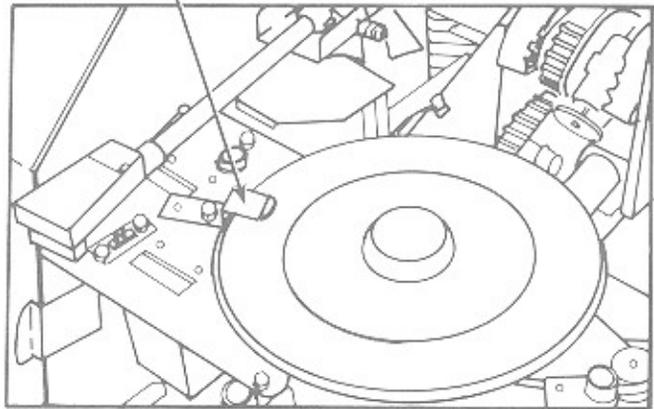

Figure 2-3. Turntable Hold-Down Clip
3. Remove the turntable hold-down clip and screw. Replace the screw (see figure 2-3).